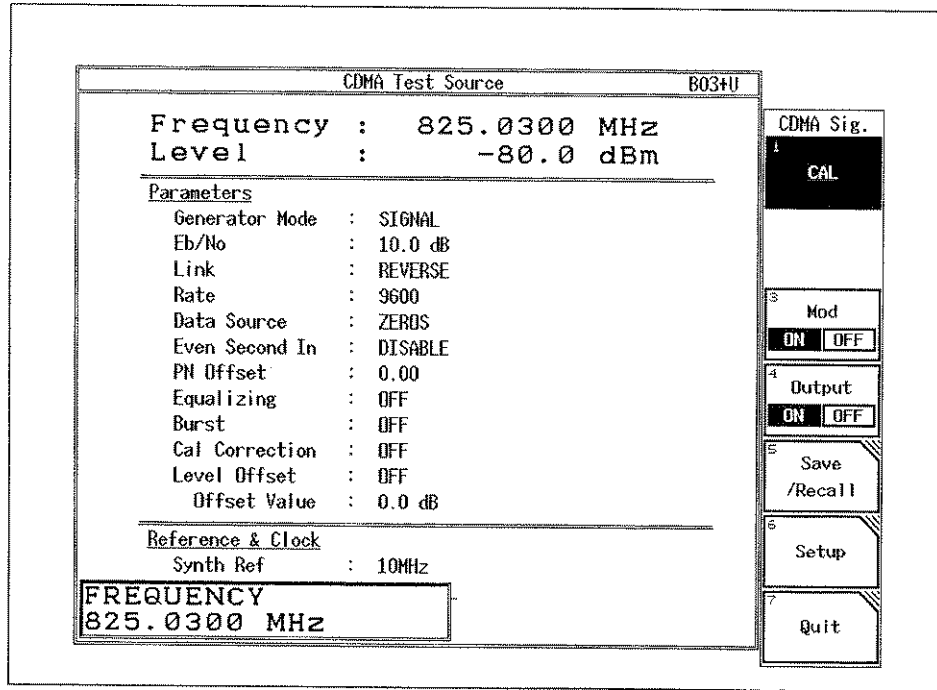

Figure 3-3 Setup Status Screen and Numeric Input Window
- (1) Output frequency setting
**[FREQ]** : When this key is pressed, the numeric input window is opened in the left lower portion of the screen. The frequency can be set in the range from 10 MHz to 2,300MHz in steps of 1Hz with the [UP]/[DOWN], [DATA KNOB], or number keys. (See Figure 3-3.)
- (2) Output level setting
**[LEVEL]** : When this key is pressed, the numeric input window is opened in the left lower portion of the screen. The output level can be set in the range from -125.0dBm to +6.0dBm in steps of 0.1dB with the [UP]/[DOWN], [DATA KNOB], or number keys. (See Figure 3-3.)
- (3) AWGN Calibration
**{CAL}** : Additive White Gaussian Noise (AWGN) and CDMA signals are calibrated. When you have changed the generator mode to Eb/No, you need to perform this calibration. After calibration, {CAL} is displayed in reverse video. (Figure. 3-3 shows that the calibration has been completed.)
- (4) Modulation ON/OFF setting
**{Mod ON OFF}** : Set the output modulation status (see Figure 3-3).
- (5) Output ON/OFF setting
**{Output ON OFF}**: Set the signal output status (see Figure 3-3).